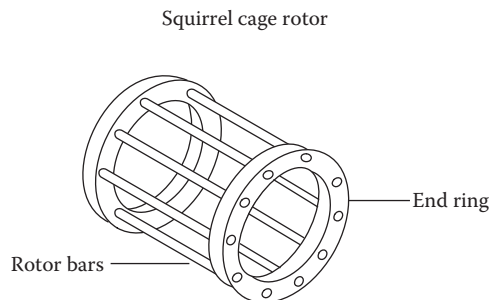

FIGURE 13.22 Squirrel-cage rotor of an induction generator.
However, wind power generation uses *asynchronous generators*, meaning that they are not rotating at a fixed speed. Most wind turbines use *induction generators*, which at low speeds behave as a motor and at higher speeds as a generator. A common induction motor employed in wind turbines is a *squirrel cage generator* (SCIG), so named because the rotor of the generator resembles a cage made out of rings and bars; the bars are shorted at the rings (Figure 13.22). The magnetic field is created by the stator, not the rotor, which is fed with three-phase alternating current (AC). An advantage of this design is that there is no need for brushes and slip rings to connect to the rotor.